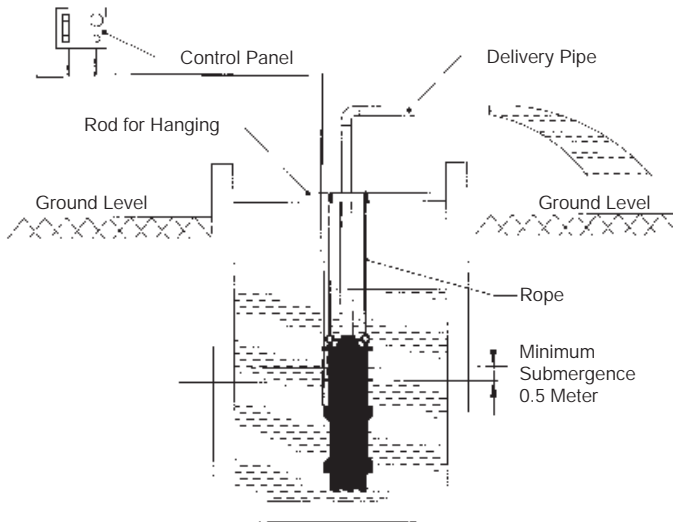

Fig. 2
- Rope and rod for hanging the pump set in open well as shown in Fig. 2